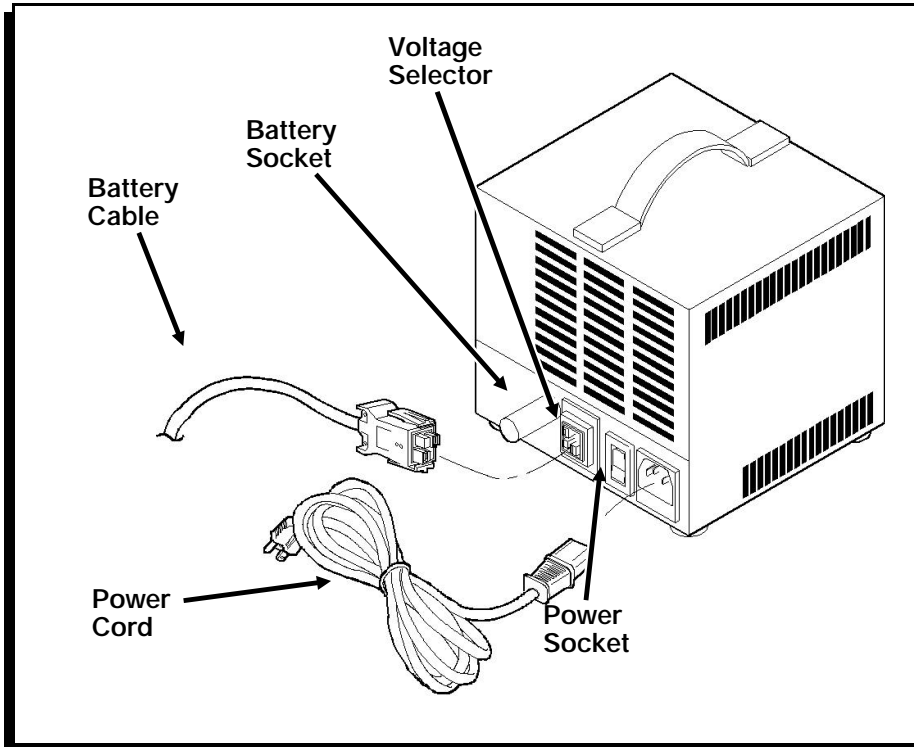

Figure 14
3. Insert the power cord (packaged with the battery charger) into the power socket on the back of the charger. (Figure 14.)
4. Insert the battery cable into the battery socket on the back of the charger. (Figure 14.) The cable is keyed.